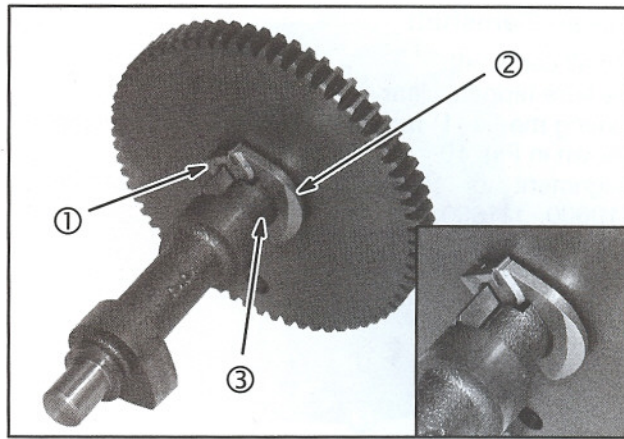

Fig. 8
Check compression release (1) mechanism for wear, nicks, and freedom of movement, Fig. 8